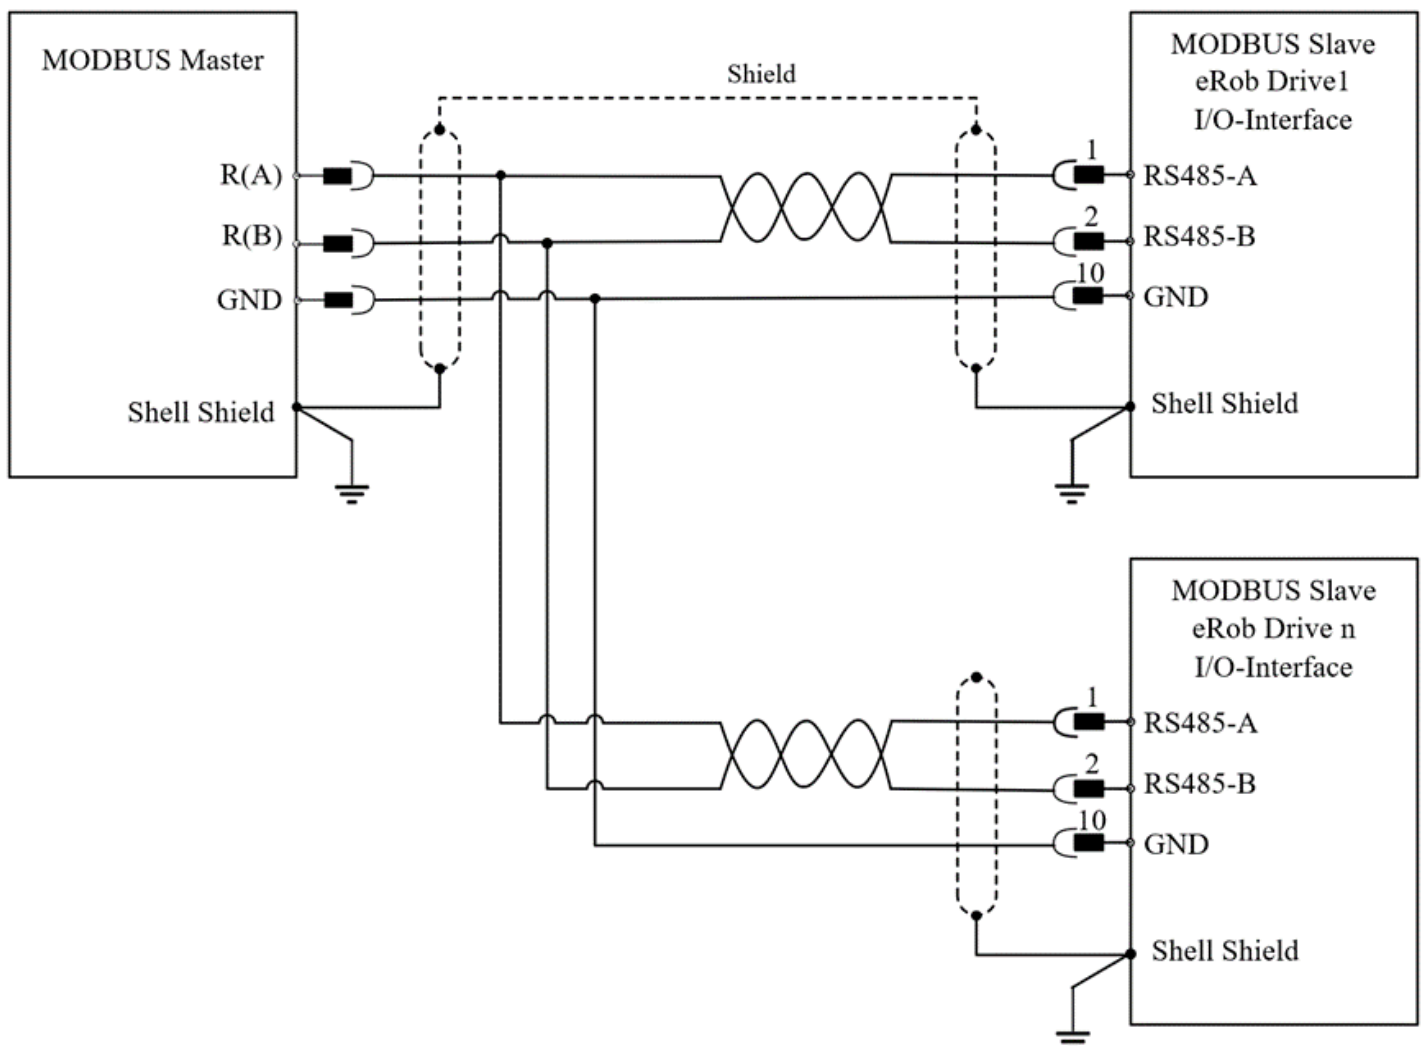

Figure 6-10 Modbus-RTU communication wiring diagram
6.4 Modbus-RTU Communication Wiring Diagram(as shown in Figure 6-10)
The Modbus-RTU communication interface is the RS485 communication interface of the I/O terminal of the eRob rotary actuator. The MODBUS master system and the MODBUS slave system can create a multi-point connection bus network. The wiring diagram is shown in Figure 6-10. For details on the use of the Modbus-RTU communication protocol, please refer to the eRob Modbus-RTU User Manual.